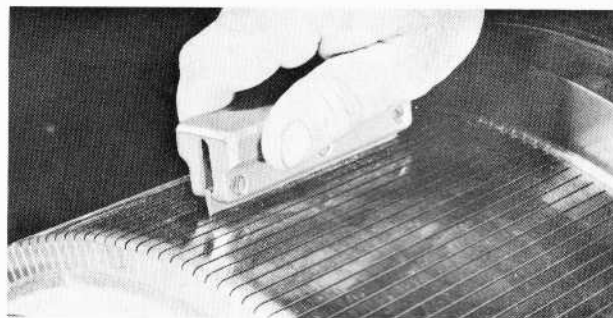

Fig. 7 - Cleaning Commutator Slots
12. With commutator slot file assembly 8238905 clean up the slots between the commutator bars as shown in Fig. 7, to remove copper dust and slivers that could cause flashovers. Do not exceed the mica undercut depth of  $3/64''$  to  $5/64''$ .